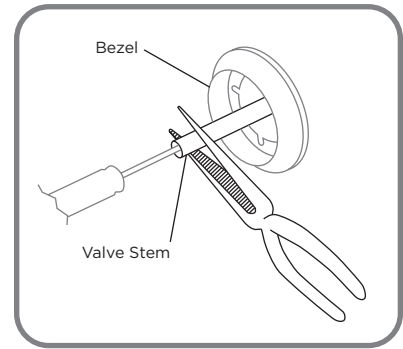

FIG. 06 Low Setting Adjustment
4. While holding the valve shaft with pliers, insert a thin, flat tipped screwdriver into the shaft and, while viewing the burner, adjust to a minimum stable flame (FIG. 06).